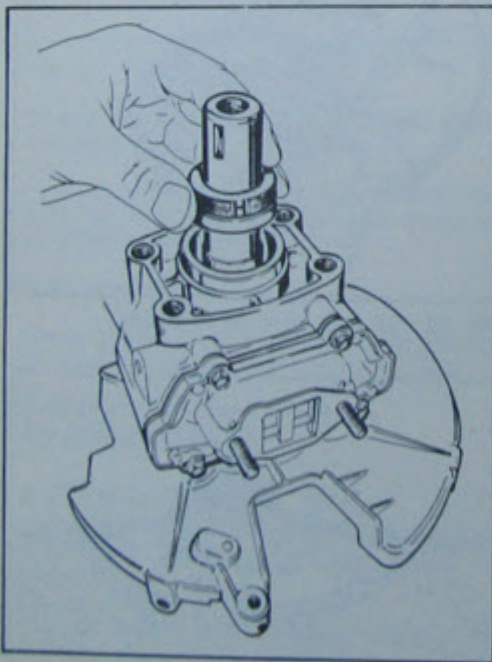

Fig. 35 Oil seal sleeve H
- Fit the new seal on the crankshaft (see Fig. 35).